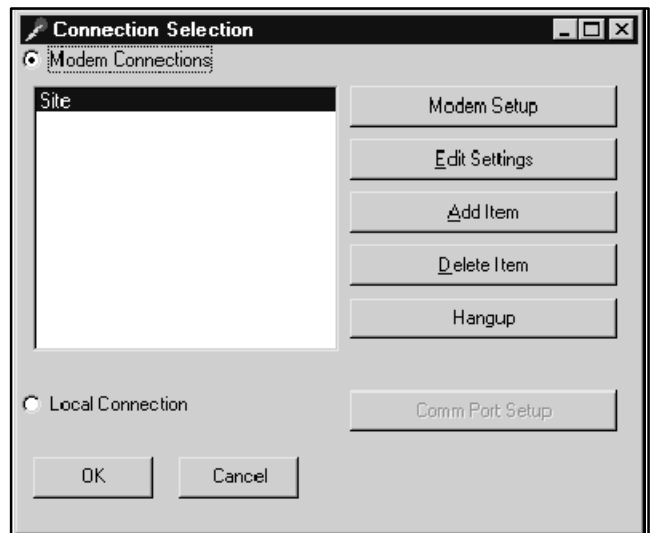

Figure 2-7 Connection Selection Window
1. Click the Modem Connections button on the Connection Selection dialog box. See Figure 2-7.